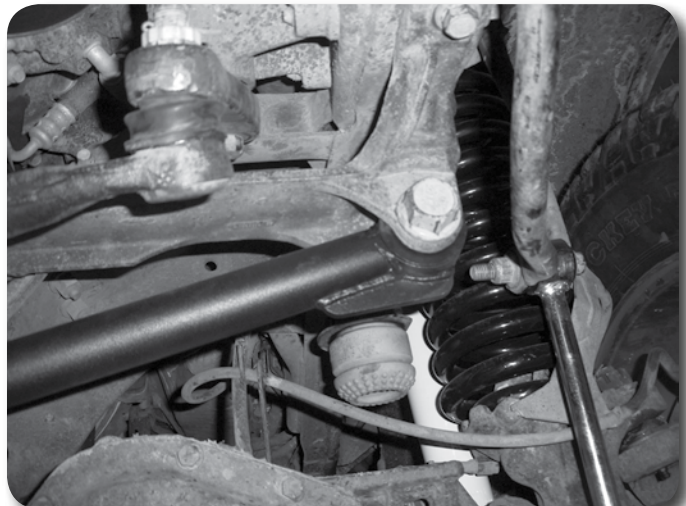

Figure 18
43. Install the new track bar into the factory frame bracket. **Figure 18** Lightly grease the faces of the bushings to ease installation. Fasten with the factory hardware and torque to 405 ft-lbs.